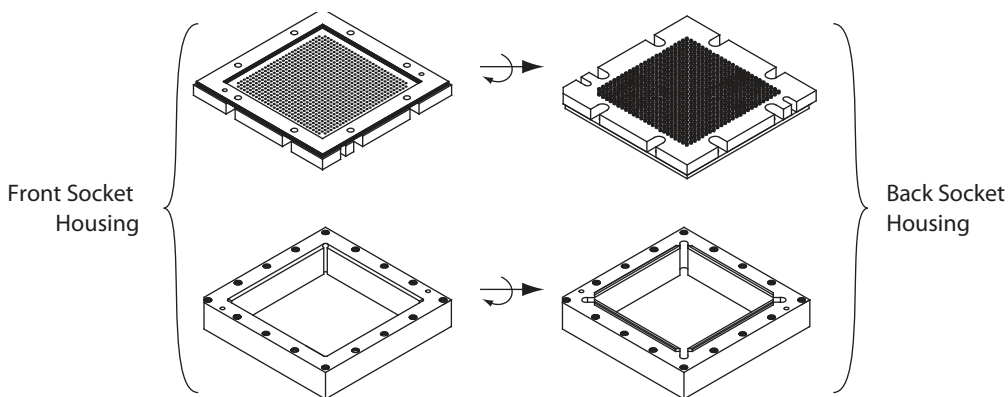

Figure 3 • View of Ceramic Adapter (Top) and Socket Housing (Bottom) Turned Over
1. Turn the socket housing and ceramic adapter upside down (Figure 3).